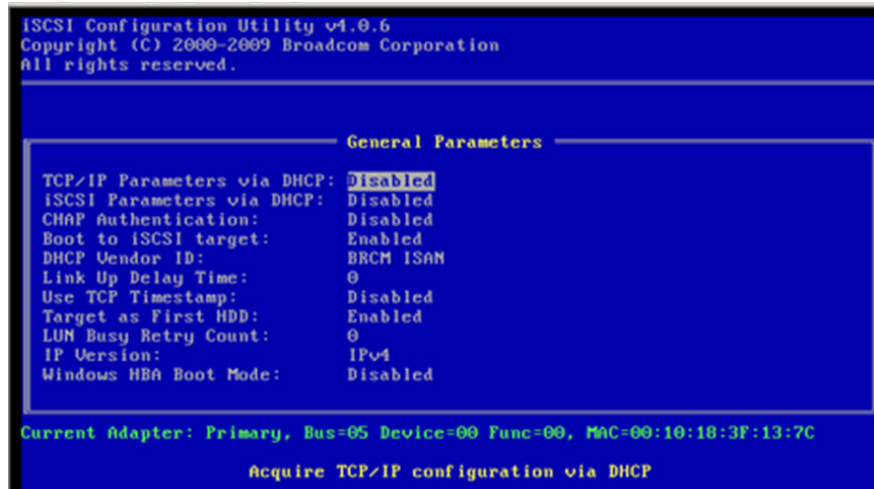

Figure 31 Changing the **Boot to iSCSI target** parameter
5. In **General Parameters**, change the **Boot to iSCSI target** parameter from **Enabled**, as shown in Figure 31, to **Disabled**.
10. Change the **Boot to iSCSI target parameter** from Enabled to Disabled, as shown in Figure 31.